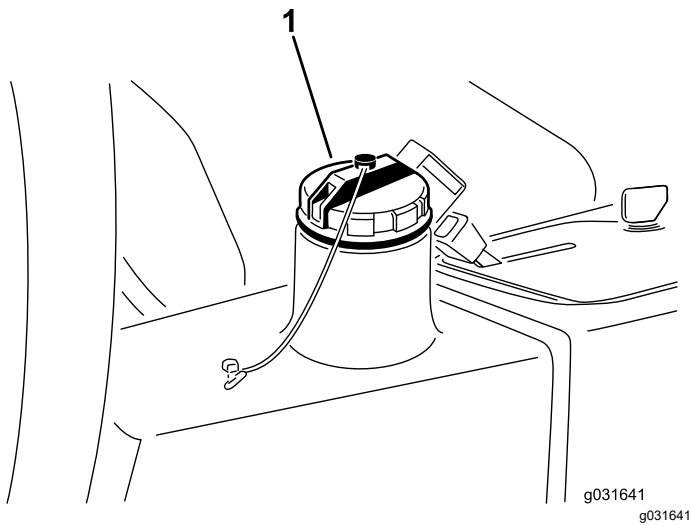

Figure 64
2. Clean the area around the filler neck and hydraulic-tank cap (Figure 64).
3. Remove the hydraulic-tank cap (Figure 64).